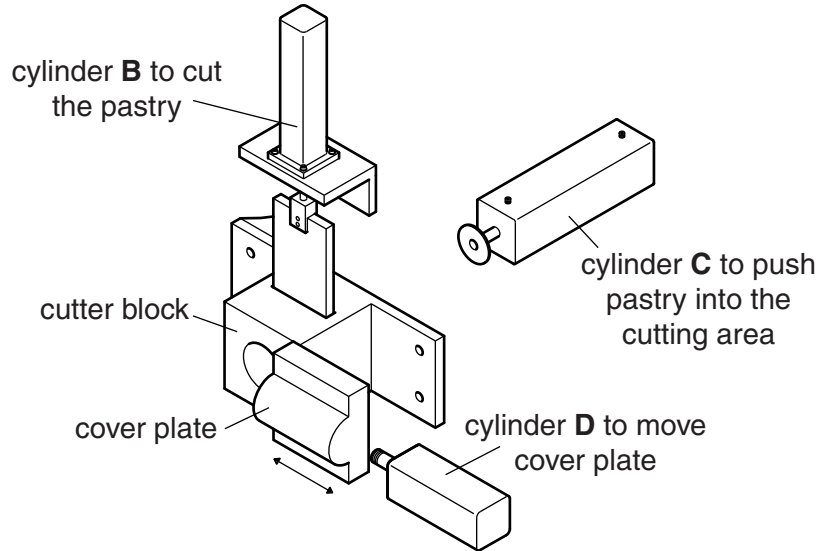

Fig. 6
- 4 Fig. 6 shows cylinder **D** which pushes a cover plate across the face of the cutting block for cylinder **C** to push the pastry against.
5 It is important that cylinder **C** in Fig. 6 applies the correct pressure when pushing the pastry into the cutting area.